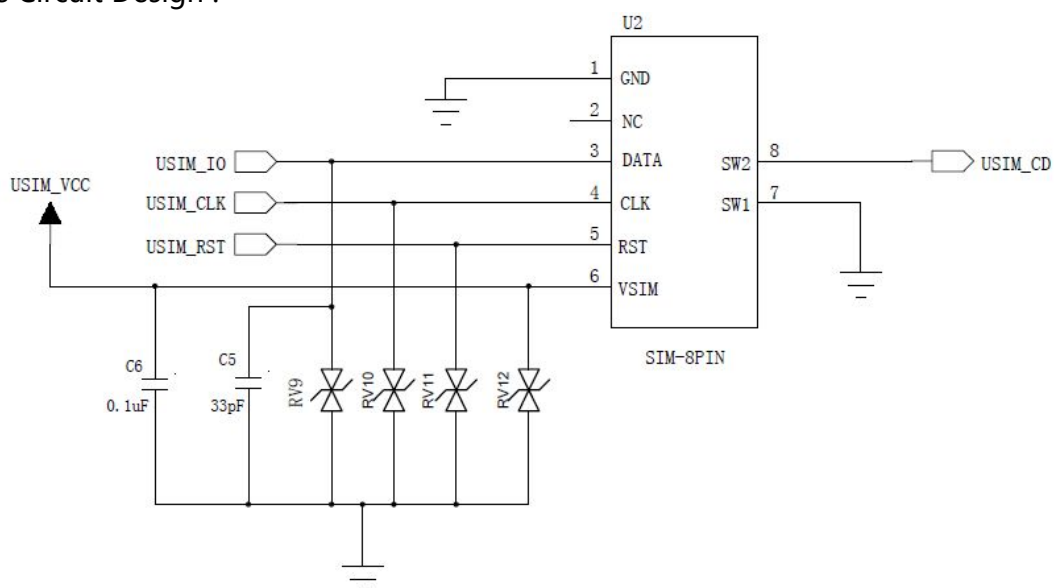

Figure 5-8 Reference Design of “Normally Closed” SIM Card Interface
- For “Normal closed” SIM card, as shown in the figure5-8, USIM_CD signal line is connected to U2’ s Pin8 (SW2), and Pin7 (SW1) is connected to the ground. When the SIM card is not inserted, SW2 and SW1 short circuit, SW2 will be at low level. When the SIM card is inserted, SW2 and SW1 will be disconnected, USIM_CD level will be pulled up.